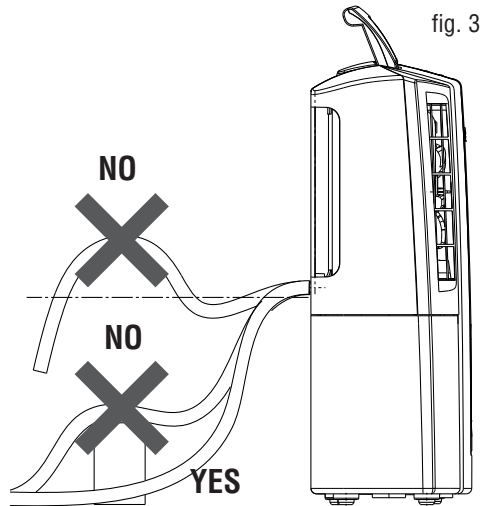

fig. 3
- 3) Make sure the end of the hose is no higher than the spout or water could remain in the tank. Make sure there are no kinks in the hose (fig. 3).